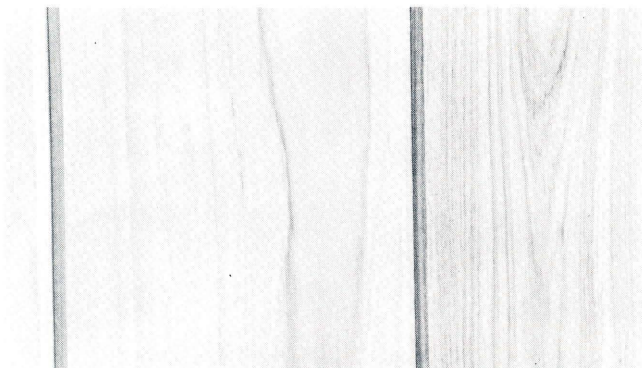

Figure 14—Tangential face of teak.
18. Golden brown, subdued figure on tangential face, surface slightly oily or resinous when rubbed by thumb (Fig. 14) **Teak**
24. Oily to touch, medium to dark brown (Fig. 14) **Teak**